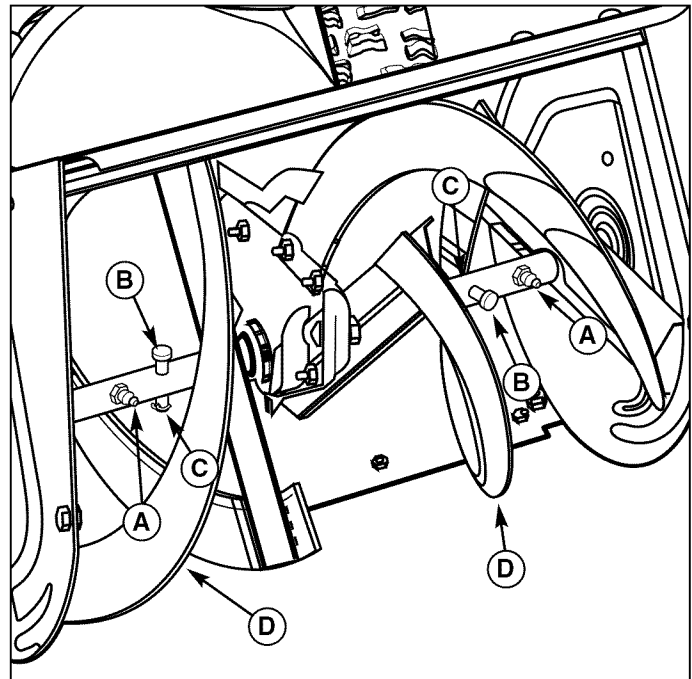

Figure 18. Lubricate Auger Shaft Assembly
1. Remove cotter pin (C, Figure 18) and shear pin (B).
2. Use a grease gun and squirt several shots of grease into grease fitting (A).
3. Rotate auger assembly (D) several times to distribute the grease evenly. Repeat step 2.
4. Reinstall shear pin (B) and cotter pin (C).